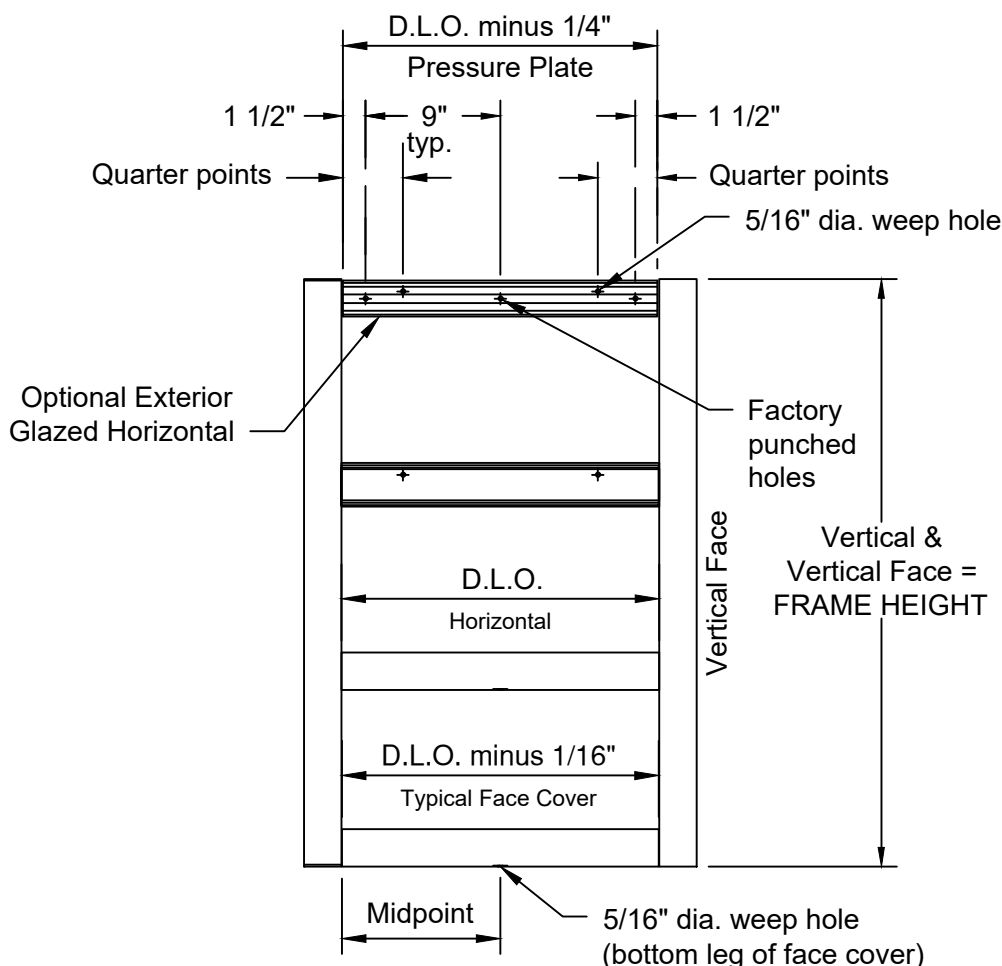

FIGURE 1
- 1.2. Cut material to size. SEE FIGURE 1, page 7 for guide.